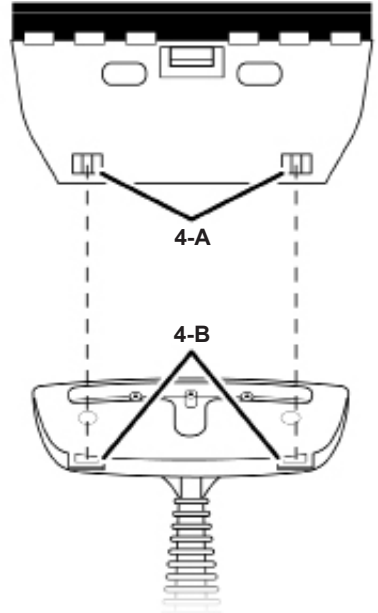

FIGURE 4
1. Connect Squeegee to Wide Nozzle by inserting hook tabs on Squeegee (FIGURE 4-A) into slots on Wide Nozzle (FIGURE 4-B).